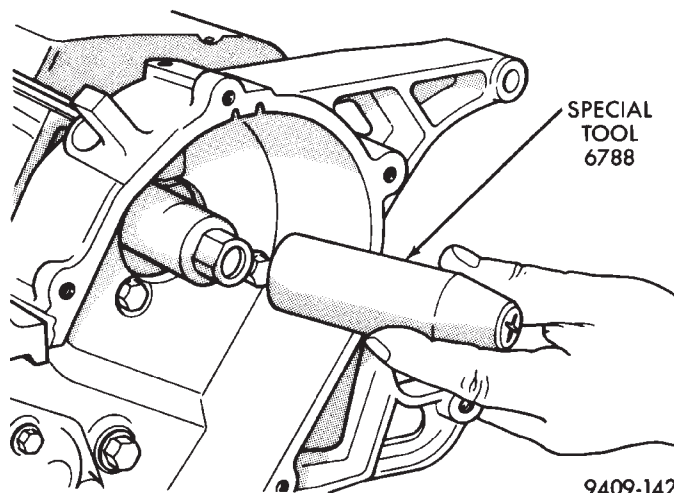
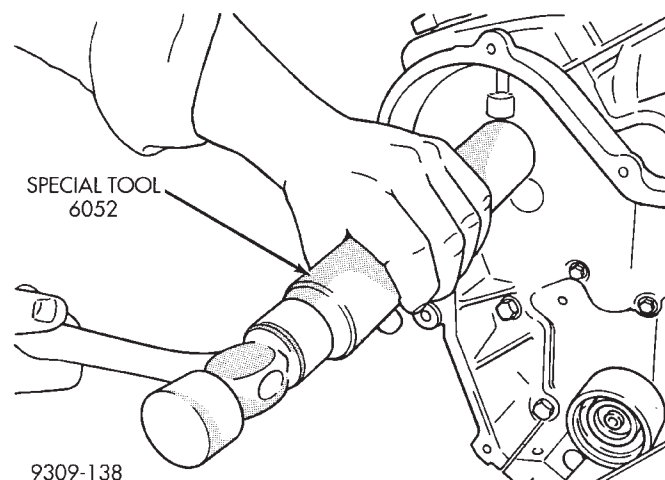

Fig. 74 Camshaft Oil Seal Protector Sleeve
Fig. 75 Camshaft Oil Seal—Installation
- (1) Apply light coat of engine oil to the camshaft oil seal lip.
- (2) Install the oil seal using Special Tool 6788 Seal Protector Sleeve (Fig. 74) and Seal Installer 6052 (Fig. 75).